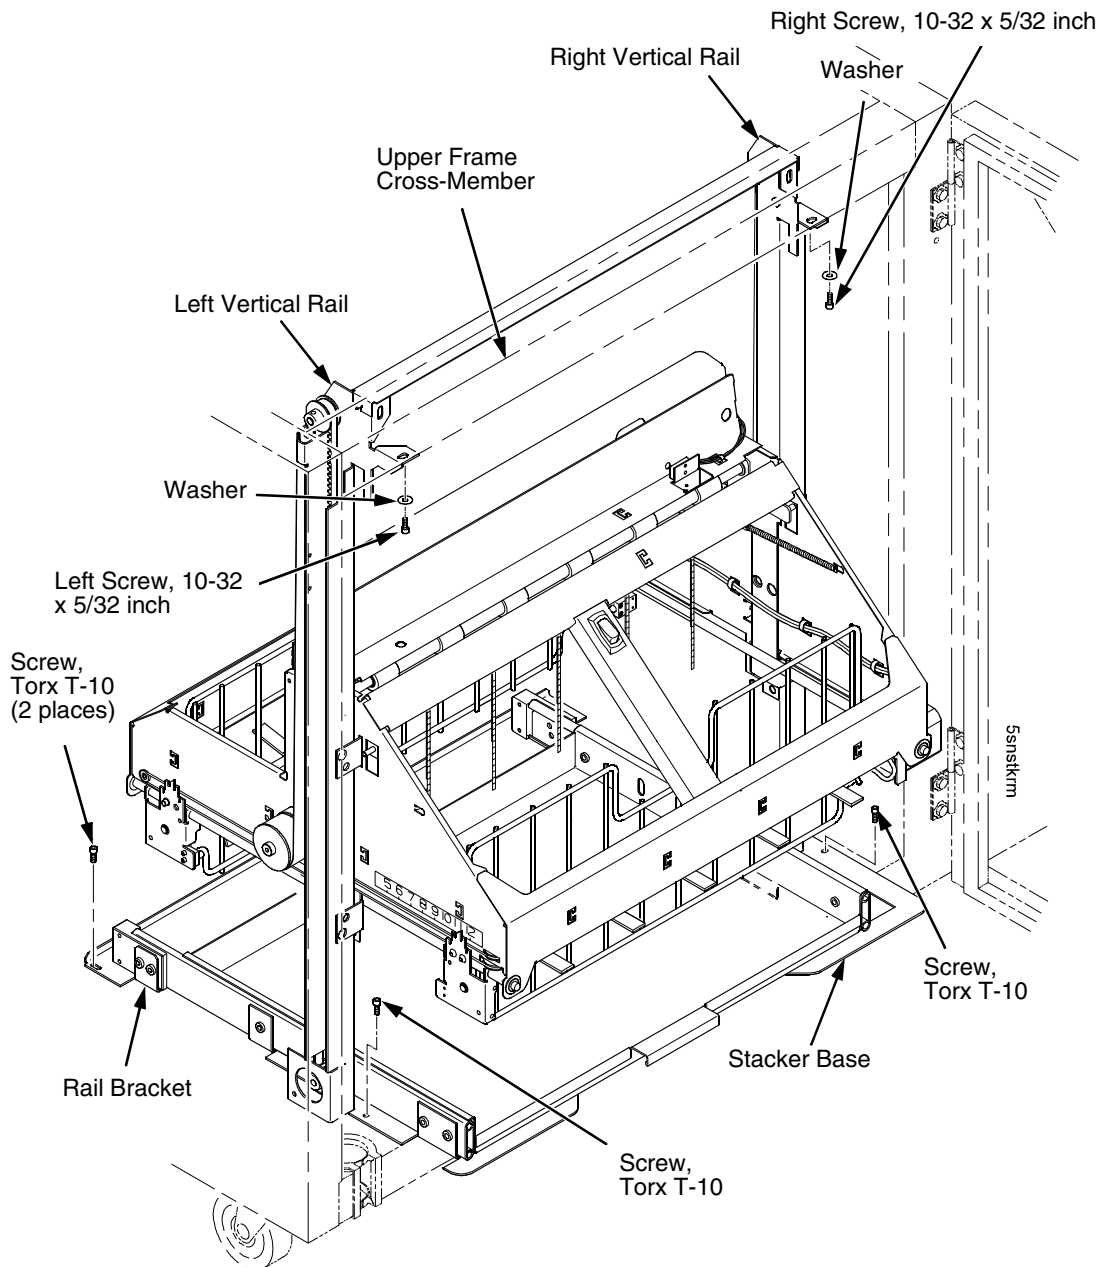

Figure 75. Preparing the Stacker for Removal
6. Remove the two 10-32 x 5/32 inch buttonhead screws and washers securing the vertical rails to the upper frame cross-member at the rear of the cabinet. (Figure 75.)
7. Remove the two Torx T-10 screws securing the stacker base to the cabinet floor. (Figure 75.)
8. Remove the two Torx T-10 screws that secure the rail bracket to the cabinet floor. (Figure 75.)